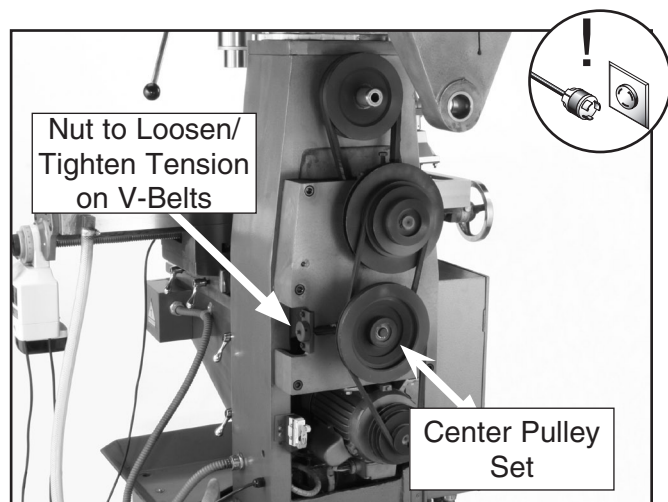

Figure 17. Horizontal spindle access area.
4. Open the access panel to the horizontal spindle pulleys (see **Figure 17**).